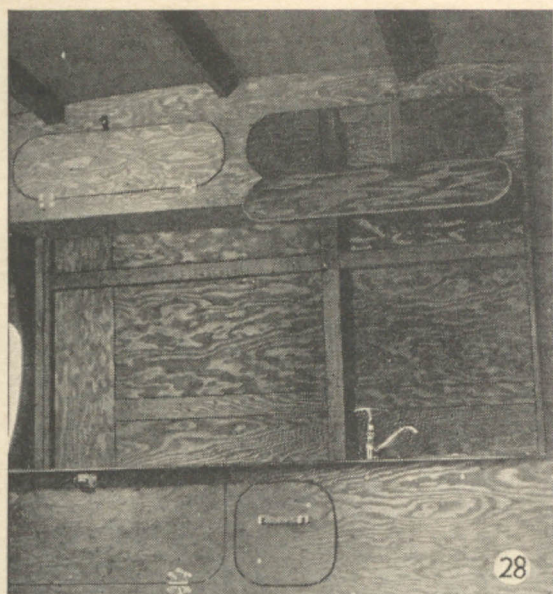

Fig. 28. Extra locker space can be added above galley, in the corner of the roof, if desired.
30. The wardrobe door is fitted with a mirror. Cup and glass racks are provided over the cabinet. Roof lockers are built in as needed, Fig. 28.